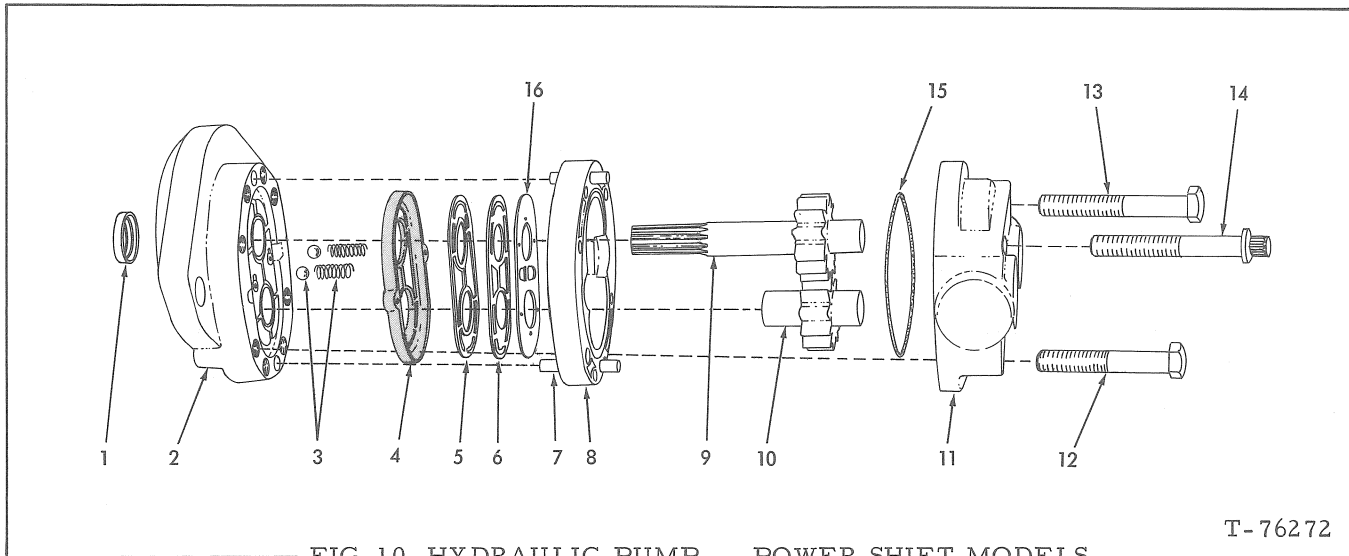

FIG. 10 HYDRAULIC PUMP -- POWER SHIFT MODELS
Scribe line length of pump as index for re-assembly. Remove capscrews from rear plate, Fig. 10 (11); pull rear plate off dowels in gear body. Remove O-ring (15) from rear plate.
Mark position of pump gears; pull drive shaft and idler shaft out of gear body and front plate. Cover drive shaft splines to prevent damage to oil seal, Fig. 10 (1), if it must be re-used.
Separate the gear body and front plate; remove diaphragm, Fig. 10 (16), gaskets (5) (6), seal (4), and springs and balls (3) from front plate. Remove drive shaft oil seal (1) from front plate.
Lightly oil all parts prior to assembly. Install check balls, Fig. 10, in bores in front plate; seat springs over the balls. Install seal (4), gaskets (5) (6), and diaphragm (16) (bronze side up) in front plate. Use dull tool to "tuck" seal into grooves in front plate; diaphragm (16) will be flush with outer lip of seal when properly installed.
Align marks placed at disassembly; install gear body, Fig. 10 (8) and rear plate (11) with new O-ring (15).
Install capscrews, Fig. 10 (12) (13) (14) in proper location; torque evenly to 25 -- 28 lbs. ft. (3,45 -- 3,87 kg/m).
Install drive shaft oil seal, Fig. 10 (1) -- sealing lip in. Turn drive shaft with pliers; sight drag will be noticed if pump is properly assembled.